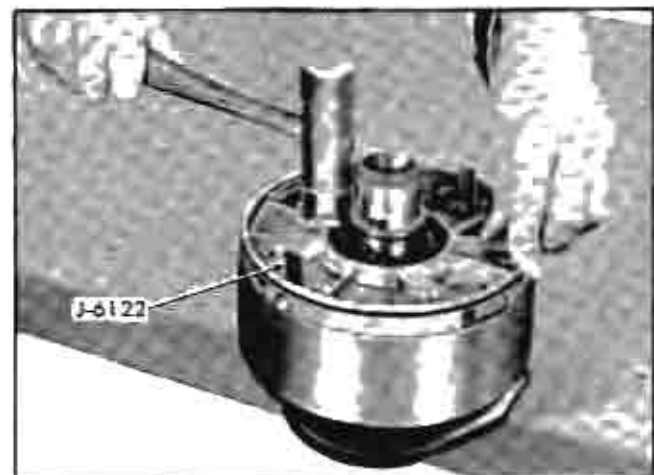

Fig. 123 Installing Torus Cover into Drive Torus Shell
6. Insert cover into drive torus shell indexing No. 1 exhaust valve (or mark made during disassembly) with mark on drive torus shell. Tap lightly on inner diameter of cover to position cover fully into shell (Fig. 123). The cover will be secure when snap ring groove in torus shell shows evenly above cover.